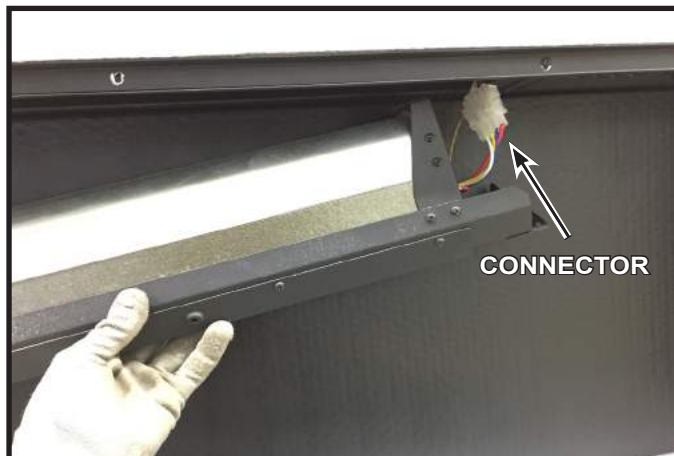

Figure 7
5. Slowly lower Heater Assembly until cable connector is accessible. See Figure 7.
6. Disconnect Heater Assembly cable connector. See Figure 7.
7. Connect replacement Heater Assembly. See Figure 7.